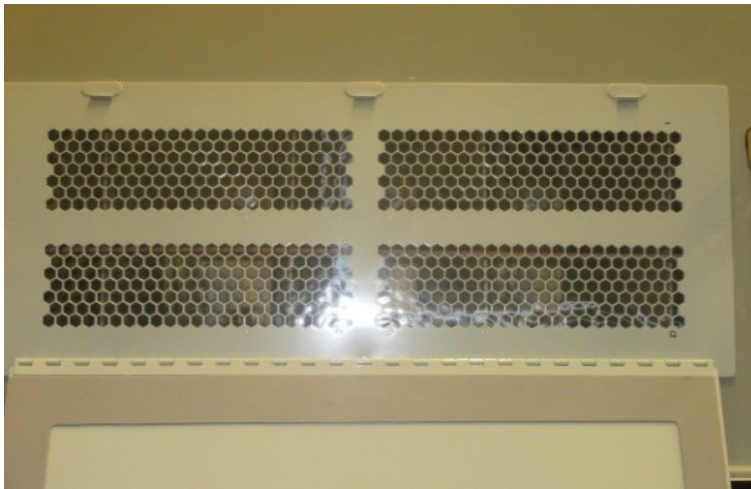

Figure 2 Flex IR custom designed IRISS 24" high x 8" wide polymer infrared window replacement
Plexiglass material does not allow infrared radiation to pass through it and be seen with a thermal imaging camera. The Plexiglass window was held in place by eight (8) easily removable mounting bolts. Measurements of the opening and bolt hole locations were made. This data was provided to IRISS who made a template of the opening. The template was made and sent to the site. The opening and bolt hole locations were fine-tuned so that an exact Flex IR custom replacement could be installed using the same mounting as the original Plexiglass (See Figure 2).